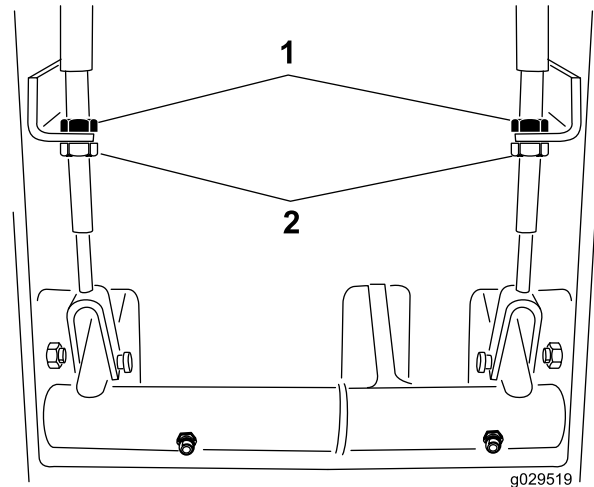

Figure 63
2. To reduce the free travel of the brake pedals, tighten the brakes by loosening the jam front nuts on the threaded end of the brake cable (Figure 63).